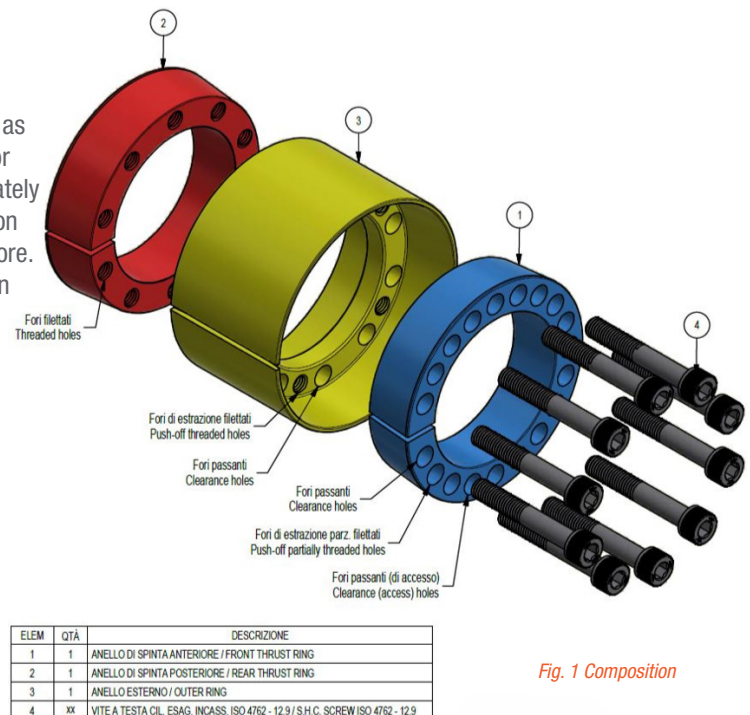

Fig. 1 Composition
**Locking Assemblies MAV 4061 and MAV 4061L are supplied ready for installation and are composed of (fig. 1):**